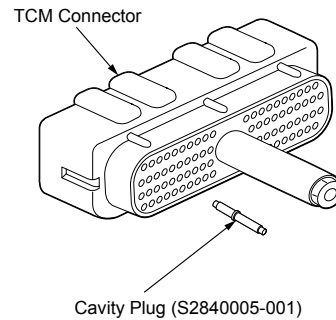

Figure 3, TCM Connector and Cavity Plug
4. Remove the TCM cover and unplug the TCM connector from the TCM. Inspect the connector for missing cavity plugs and replace with cavity plug (S2840005-001) as needed (see Figure 3).